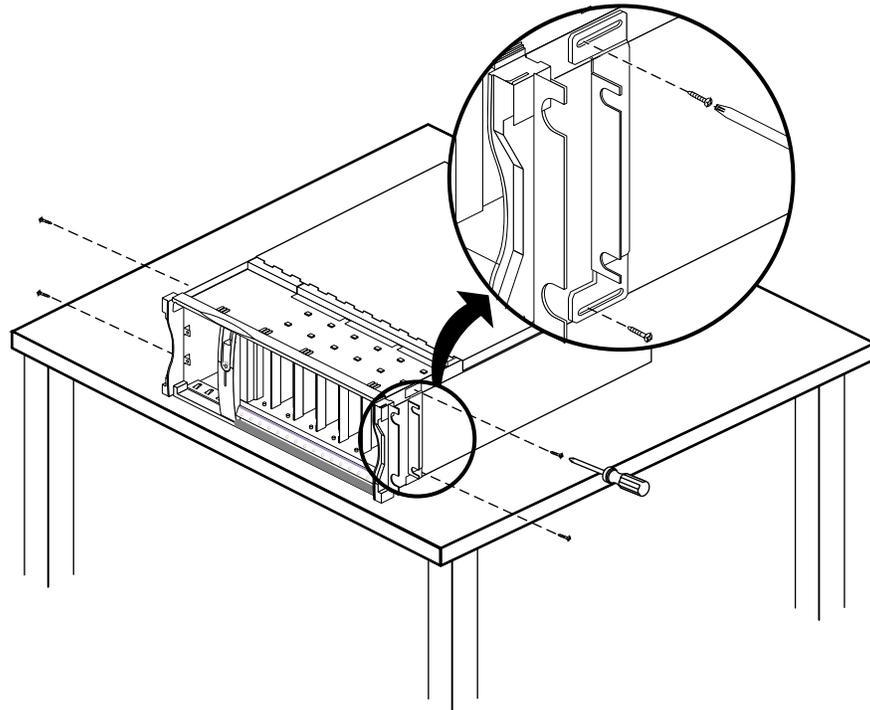

Figure 3-3 Attaching the Rackmounting Hardware (Ears)
3. Using a #2 Phillips screwdriver and the 6-32 x 1/4-inch screws provided with the system, fasten each ear to the side of the chassis, behind the front flange, as shown in Figure 3-3. Use two screws for each mounting ear.